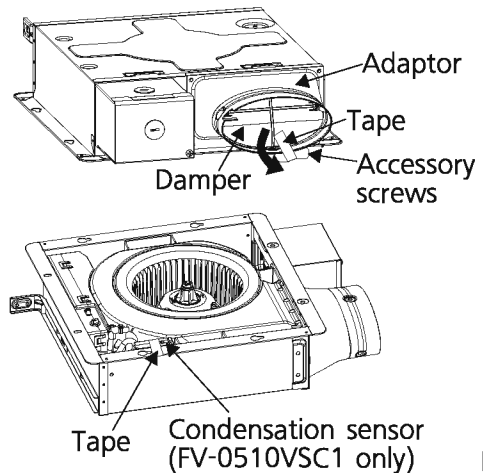

Fig.1
1. Before installation, please remove the tape which protects damper during shipping and accessory screws from duct adaptor and the tape which fixes condensation sensor (FV-0510VSC1 only), then check that the damper can open and close smoothly. (Fig.1)
Please remove the tape on damper according to the direction of arrow in Fig.1, otherwise the damper may be pulled out.